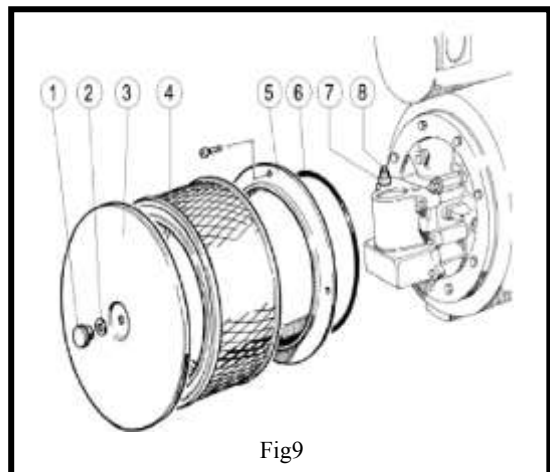

Fig9
If there is a receiver, close the valve downstream of the receiver. Operate manually on the compressor as shown in figure 9: remove the filter element by unscrewing the lock knob (1) and washer (2), remove the cover (3), pull out the filter element (4), unscrew the relative screws to remove the cover (5) and pull out the O-Ring (6). The Servo valve can now be accessed. Loosen the lock nut (7) and tighten (to increase pressure) or loosen (to decrease pressure) the pressure gauge located on the separator body. Open and close the delivery gate valve slowly in order to stabilize and check calibration. Lastly, secure the screw (8) by tightening the lock nut (7), put back the O-Ring (6) taking care that it is not warped (replace if necessary), the cover (5) and then the filter element (4). Put back the cover (3), the washer (2) and tighten the lock knob (1). Now the previous value of the parameter [MAX PRESSURE] in the menu [CUSTOMER PARAMETER] can be restored.